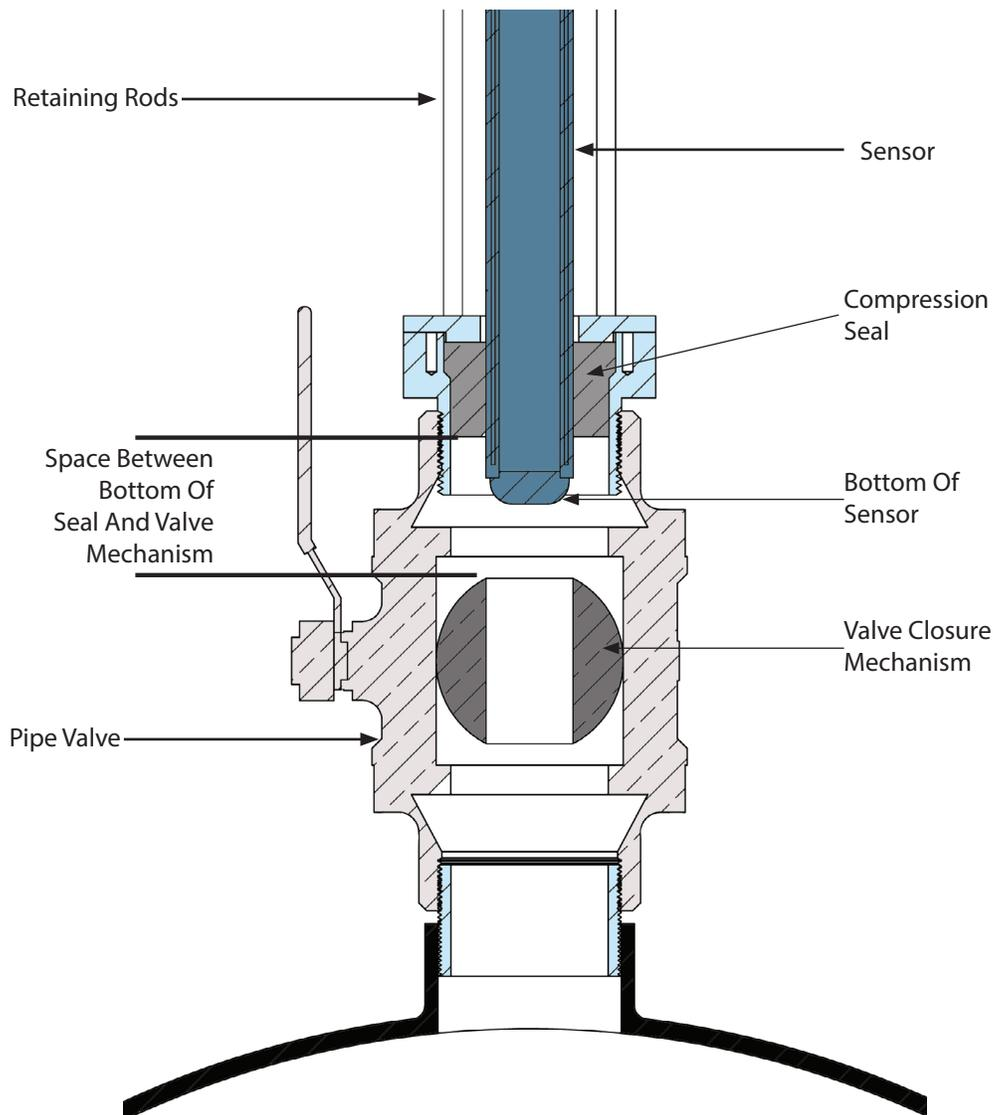

Figure 17: Cross-Section Of Meter Showing Sensor Removal
10. Rotate the captive nuts on the top plate simultaneously. The *sensor* insertion tool is recommended. See *Installation, STEP 12*. This will cause the *sensor* to rise out of the pipe. If the line is under pressure do not remove the *sensor* from the compression seal completely. Only raise the *sensor* until it is clear of the valve, but still below the compression seal. See *Figure 17*. Once the *sensor* has cleared the valve mechanism, the valve can then be closed. Do not attempt to force the valve closed while the *sensor* is still passing through the valve as permanent damage to the *sensor* can occur.